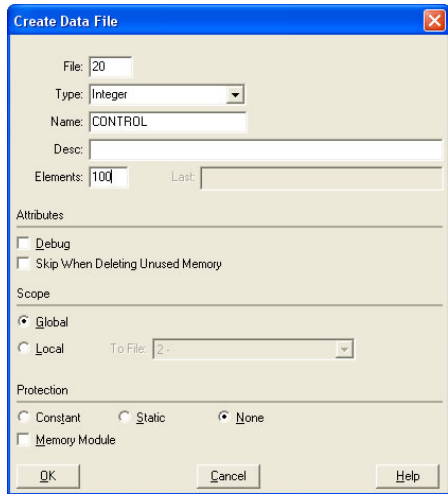

Figure 115: Creating a Control File
- a) Right click Data Files and select New... The "Create Data File" dialog box appears (refer to Figure 115).